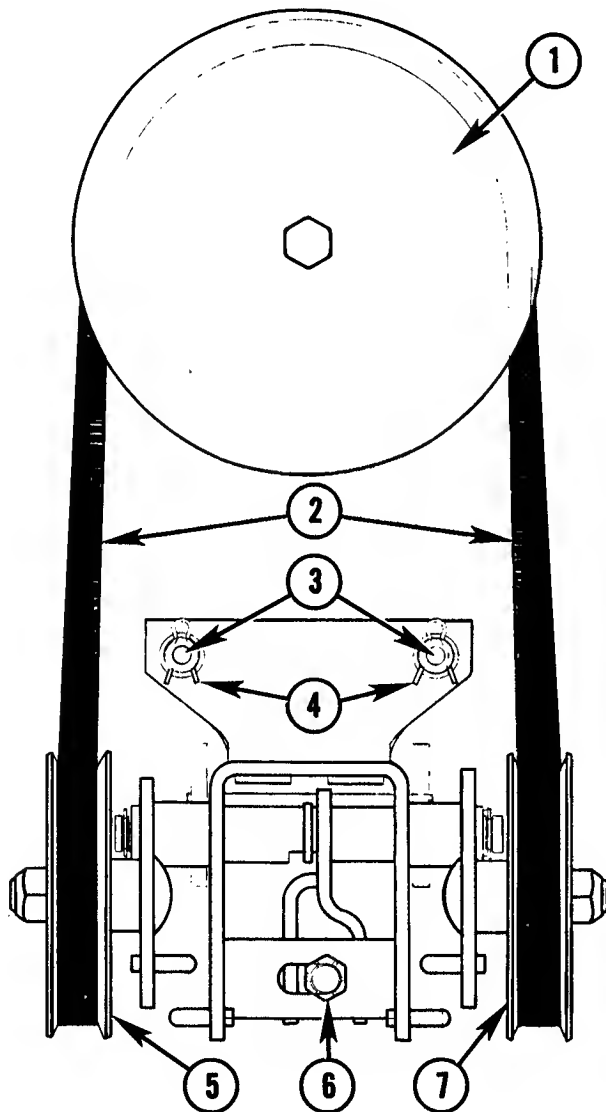

FIG. 10.5--DRIVE BELT ARRANGEMENT (FRONT)
3. Push up on right-hand mule drive pulley, No. 5, Fig. 10.5, and remove belt, No. 2, from pulley.
2. With mower in lowered position, turn adjusting bolt, No. 6, Fig. 10.5, clockwise to adjust belt tension. When belt, No. 2, is properly tensioned, pulleys, Nos. 5 and 7, should be approximately same height from ground.
6. Remove mule drive unit by removing 2 spring clips, see Fig. 10.5.
7. Place mower drive belt over Implement drive clutch pulley, see Fig. 10.5.
9. Rotate bolt, No. 6, Fig. 10.5, counterclockwise and install belt, No. 2, Fig. 10.5, under left pulley, No. 7, Fig. 10.5, then place belt around mower clutch pulley, No. 5, Fig. 10.6.
10. Raise spring loaded pulley, No. 5, Fig. 10.5, and install belt under it as shown.
11. Rotate bolt, No. 6, Fig. 10.5, clockwise until both mule drive pulleys are the same height.